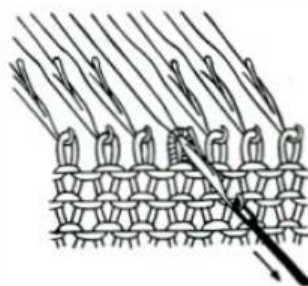

Fig. 29
- b. With the transfer tool, bring the needle forward. The stitch in the hook of the needle will slide behind the latch and onto the stem of the needle. (See Fig. 29)